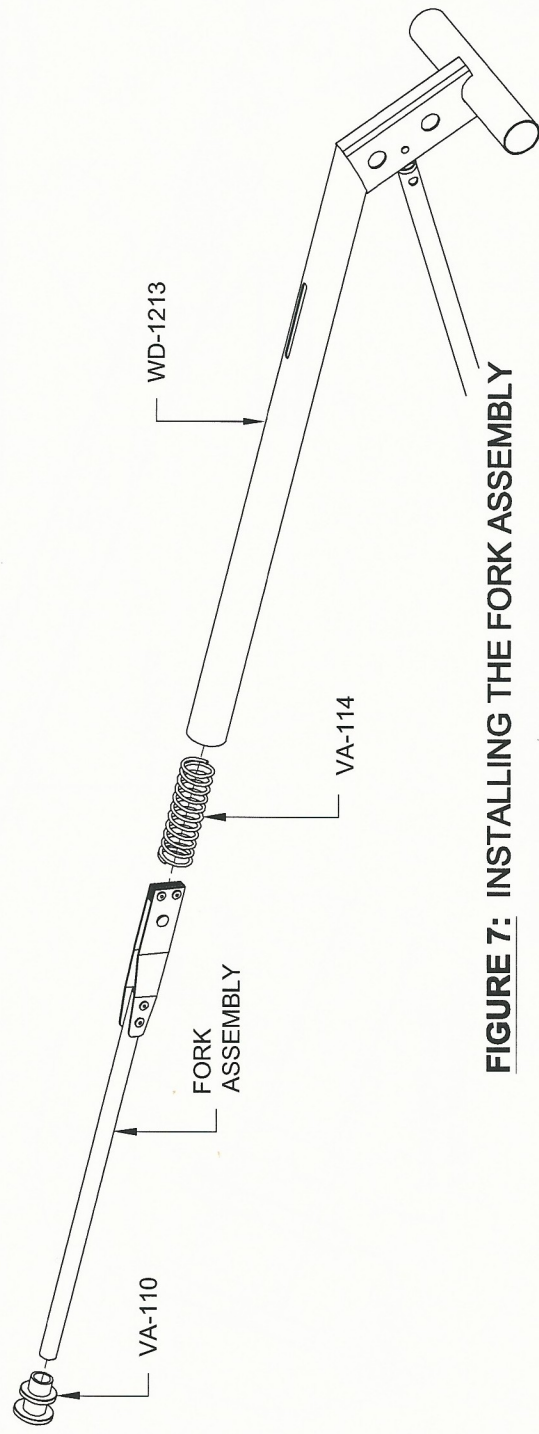

FIGURE 7: INSTALLING THE FORK ASSEMBLY
Step 12: Press the VA-110 Flap Knob onto the end of the Fork Assembly, then slide the VA-114 Compression Spring and the Fork Assembly into the WD-1213 Flap Handle as shown in Figure 7.